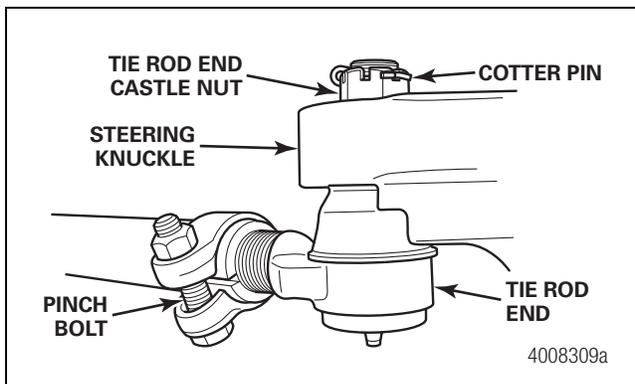

Figure 4.7
1. Remove the cotter pins from the tie rod end castle nuts. Figure 4.7.